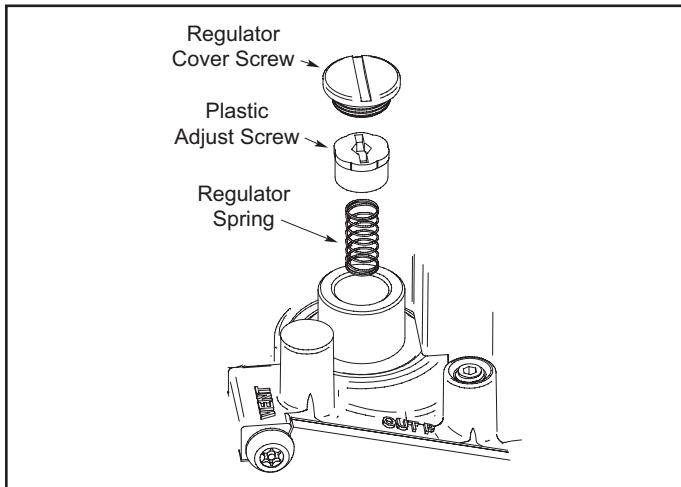

Figure 3.
6. Using Figure 3 and the valve manufacturer's instructions included in the valve conversion kit, install the gas valve conversion parts.